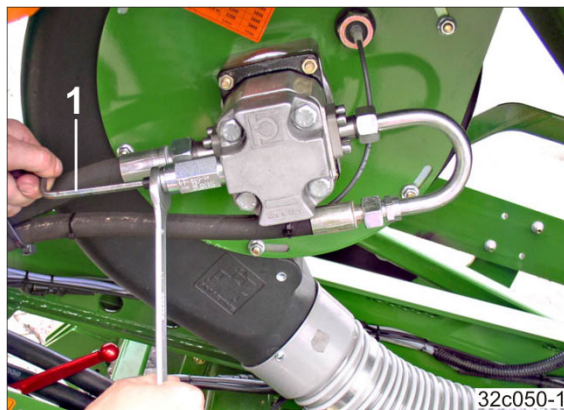

Fig. 166
1. Loosen the lock nut (Fig. 166).
2. Using a hexagon socket wrench, screw the bolt in completely (Fig. 166/1) (clockwise).
2. Use the hexagon socket wrench (Fig. 166/1) to set the target fan speed on the pressure relief valve. Do not exceed the maximum fan speed of 4000 rpm.